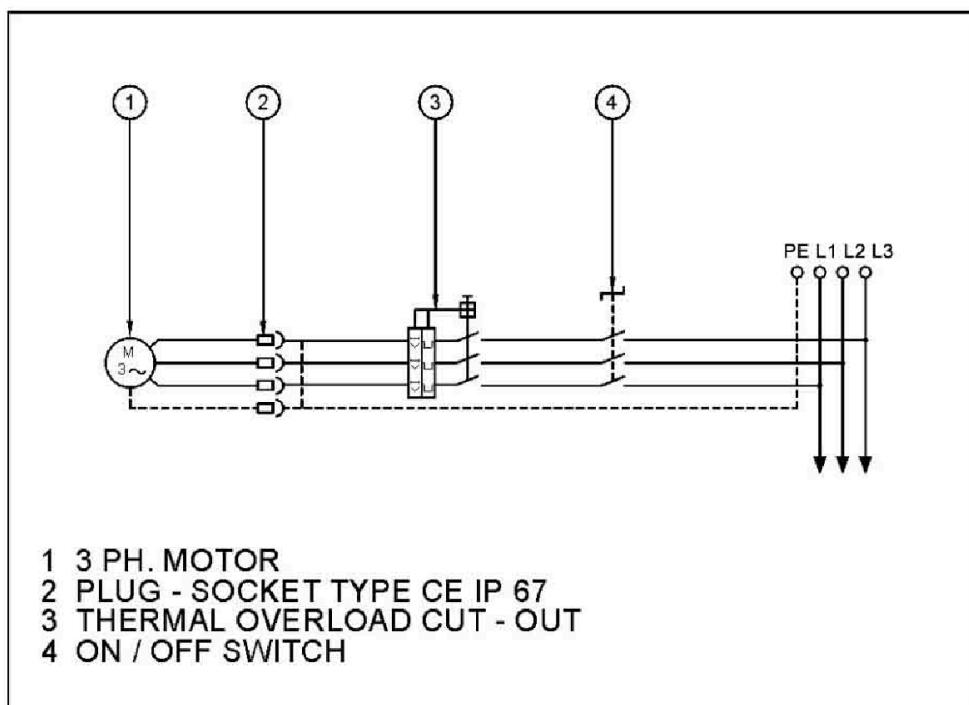

Fig.12 – Electrical connection
- Make the electrical connection from the electric switchboard of the machine tool to the **GALILEO** power cables (Fig.12) inserting the multi-polar socket/plug. This will speed up and facilitate future maintenance operations.
- Electrical connections must be carried out as illustrated in fig.12 and, in any case, in compliance with applicable norms in order to carry out a professional installation.